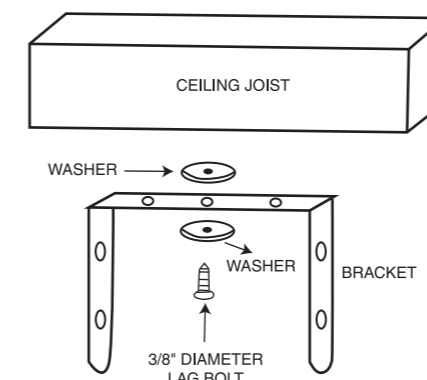

Figure 4a- Single- Screw Mounting
- Refer to Figure 4a and 4b.
- Turning the unit** -If the unit has been installed with a single lag bolt, as shown in the figure 4a, simply turn the entire unit as needed to adjust air flow.